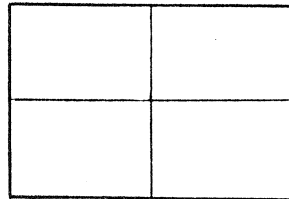

Fig.63
- White chart (Copy paper on which center lines are drawn as shown in Fig.63)